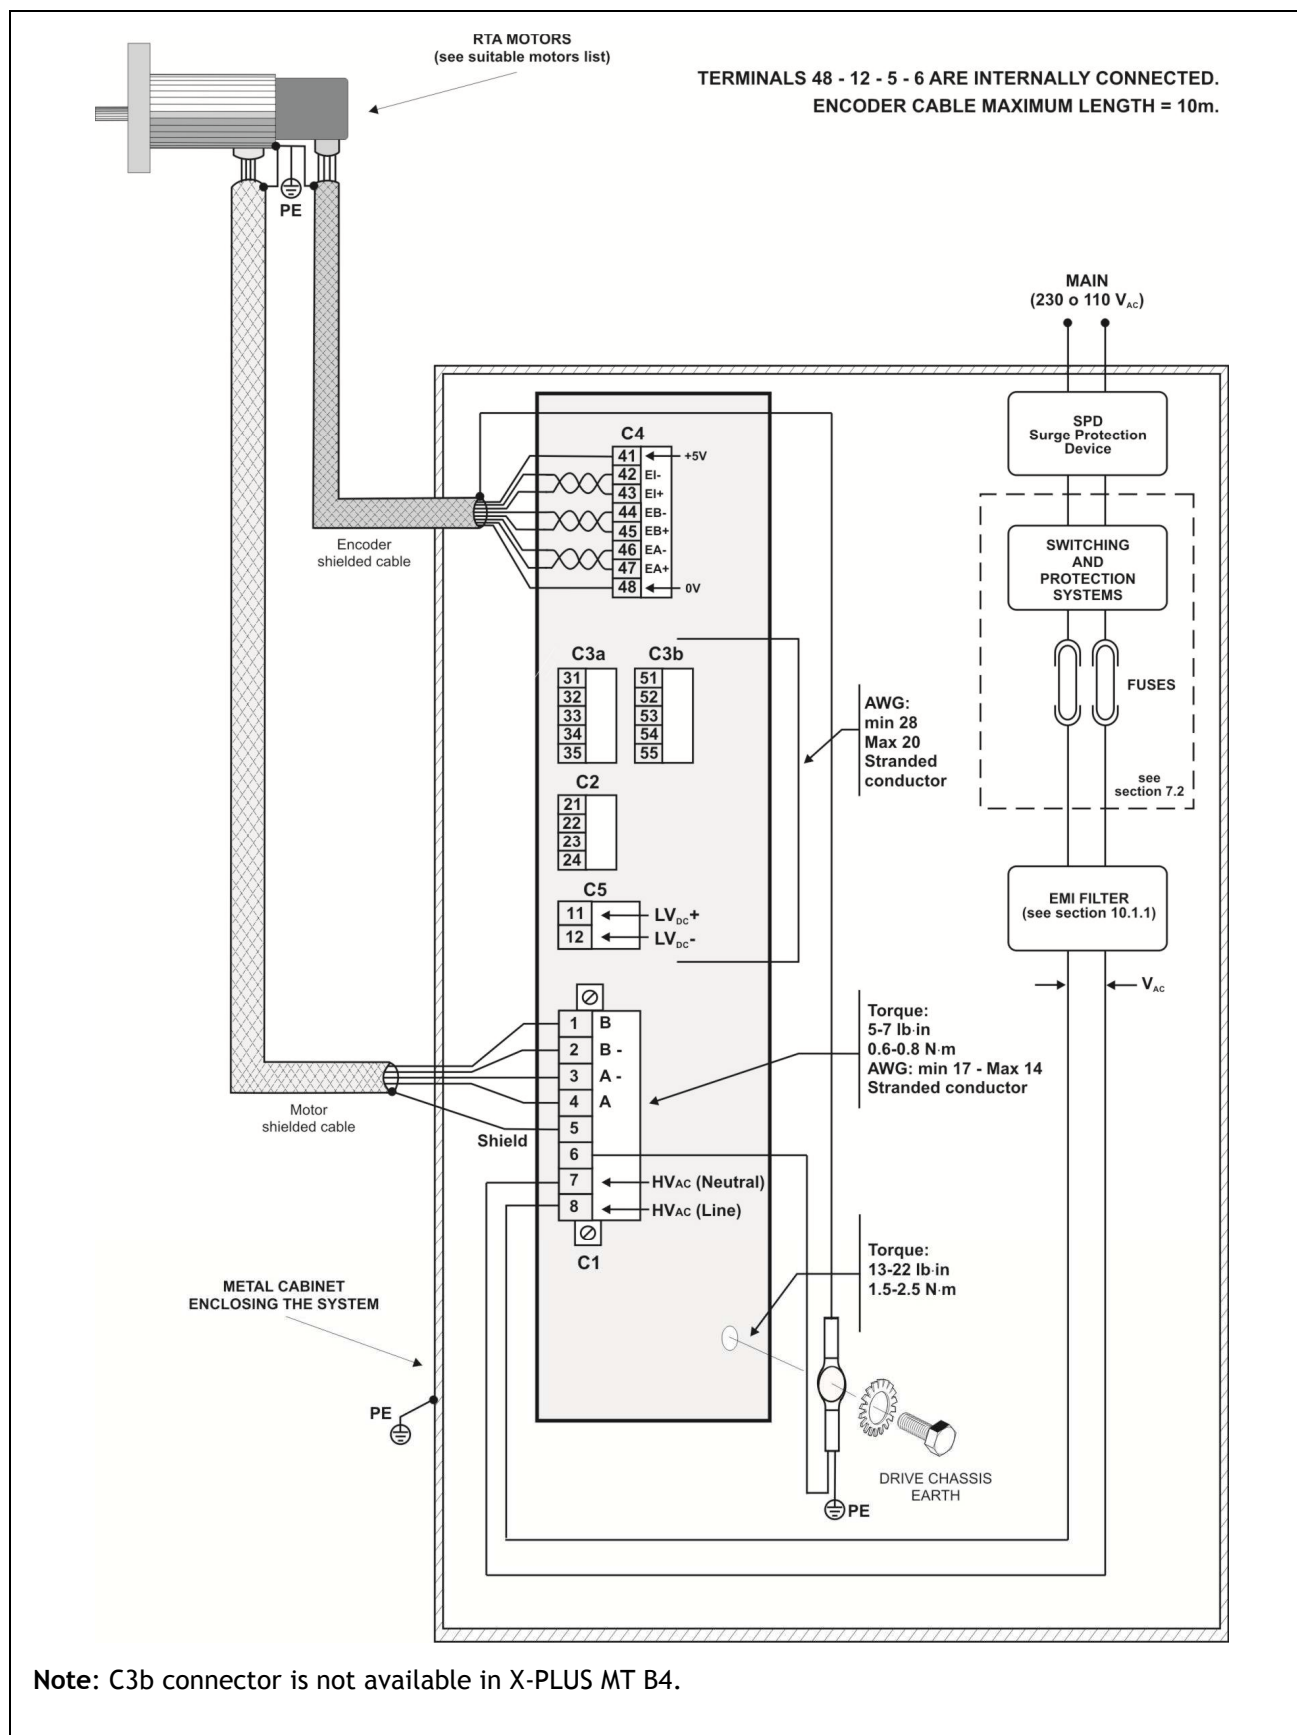
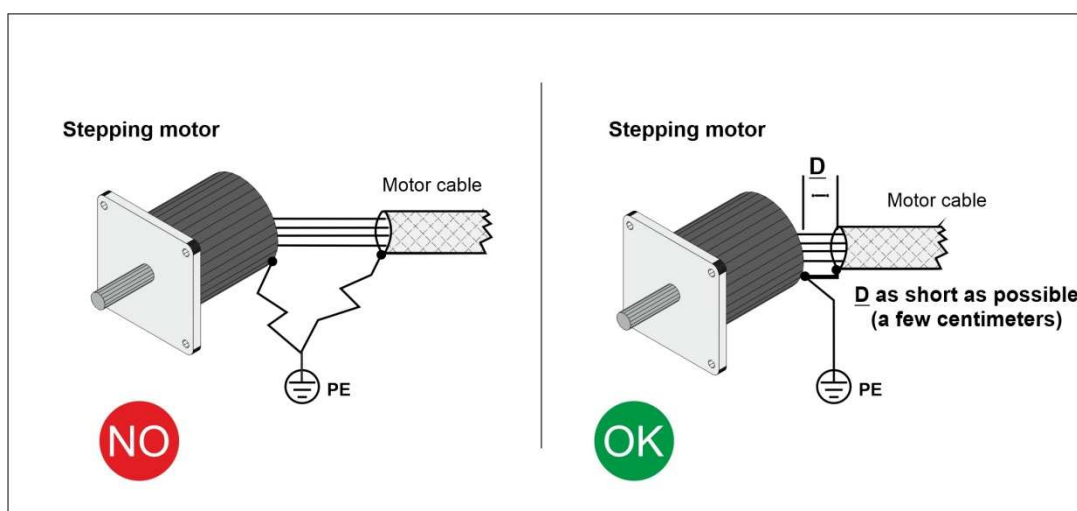

Figure 5 - Wiring diagram.
Figure 6- Shielded connection at the stepping motor side.
The **protection systems** indicated in Figure 5 must include:
- Connect **earth line** to motor chassis. To reduce the radio-frequency emissions, the mechanical connection of motor to machine chassis (by means of mounting flanges and screws), is typically simple and effective solution. In this case, both screws and chassis must be of conductor material and the chassis must be connected to earth (see Figure 5). All the ground connections must be made in such a way as to have the least possible inductance.
- Interpose an **EMI filter** in AC power input line (see Figure 5).) in order to reduce conducted electromagnetic interferences. Filter characteristics in a specific installation depend on the following factors:
Earth terminal screw and terminal 6 of C1 connector are the points of motor-drive system that have to be connected to earth (PE terminal). No other point at a different potential power circuit has to be connected to earth. The terminal 5 of C1 connector (SHIELD) is internally connected to terminal 6 of C1 connector. Other points at the same potential of GND could be connected to earth using the cautions suggested by classical techniques to obtain a correct location of multiple earth connections. Shielded cables of motor outputs must be connected to points at the same potential. See the connection scheme in Figure 5, Figure 6 e Figura 7.